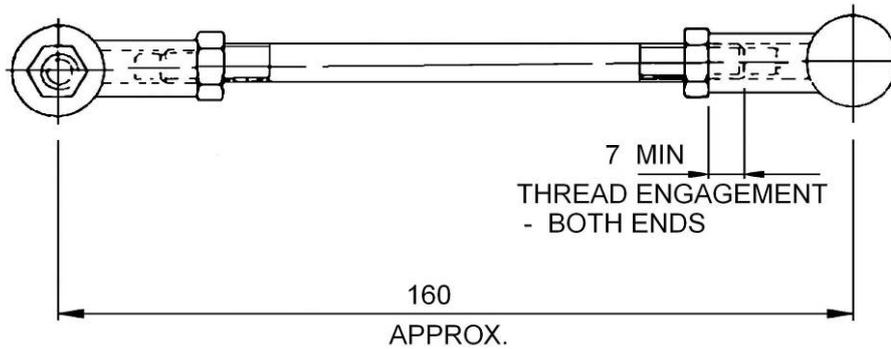

Figure 94 Rod Adjustment
- d. Lift, but do not fully remove the transmission tunnel cover and remove the adjustable selector rod from the shaft assembly. Adjust the rod to approx. 160 mm (Figure 94).